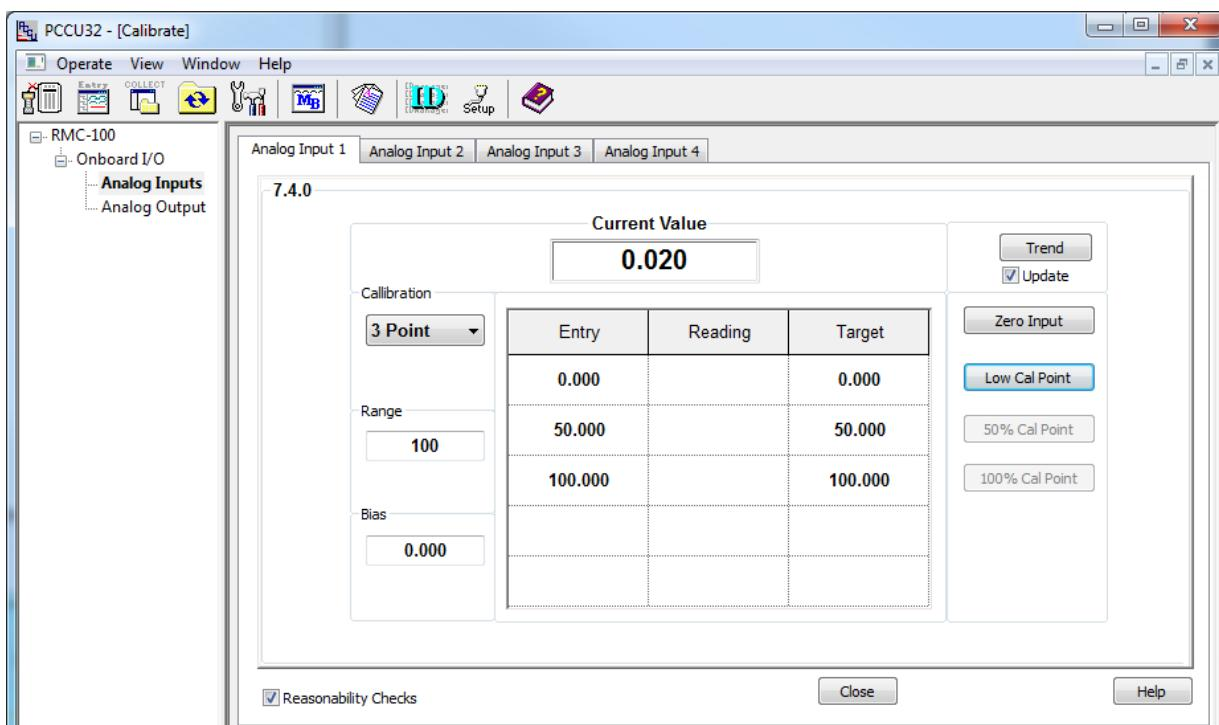

Figure 56: AI voltage default calibration values
5. Click the **AI** tab to be calibrated (Figure 56).